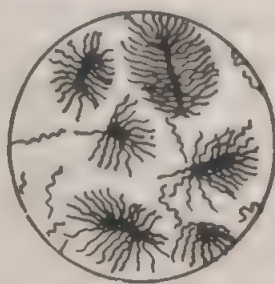

Fig. 8.5 Flagella causes Typhoid
(4) **Typhoid** Causative agent is the bacterium having numerous flagella (Fig. 8.5).